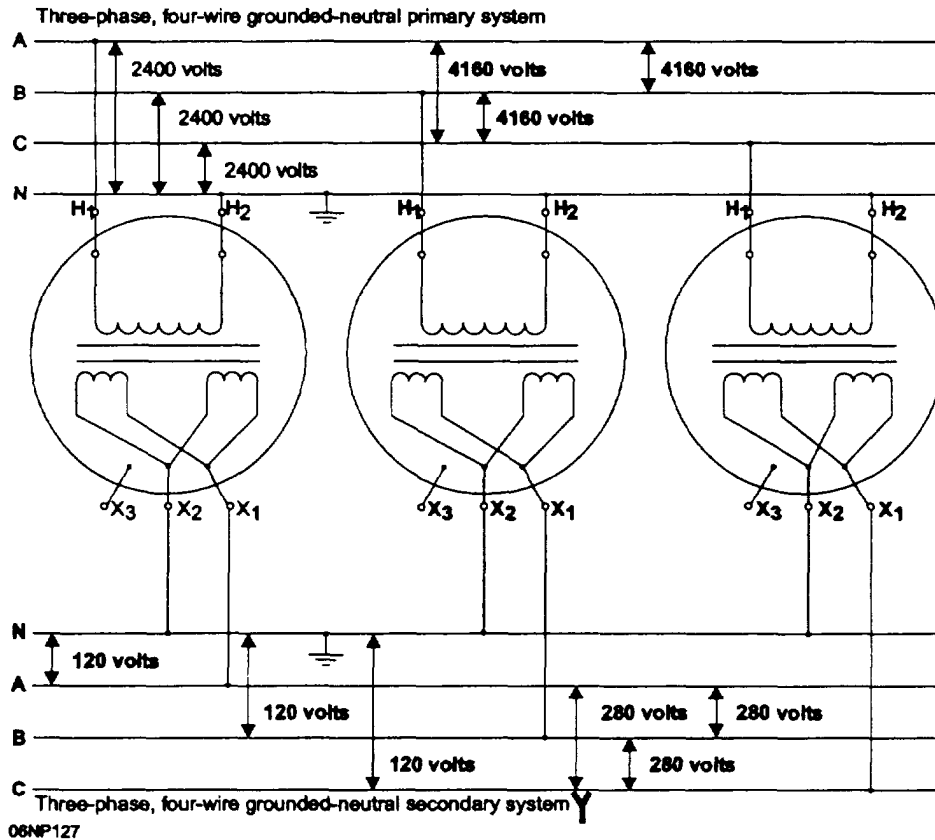

Figure 4-30.—Three-phase wye (Y) primary and secondary system.
an area is commercial, consisting of motors and other three-phase equipment. The other type of circuit is called the wye (Y) system (fig. 4-30) and is used primarily for residential use.
Secondary circuits (secondary mains) are circuits that originate from the secondary windings of a distribution transformer and are 600 Vac or less. The secondary circuits are also configured either delta (A) (fig. 4-29) or wye (Y) (fig. 4-30) and are also used for the same type of loading as the primary circuits.